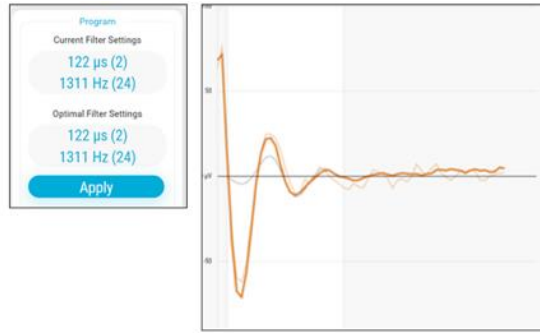
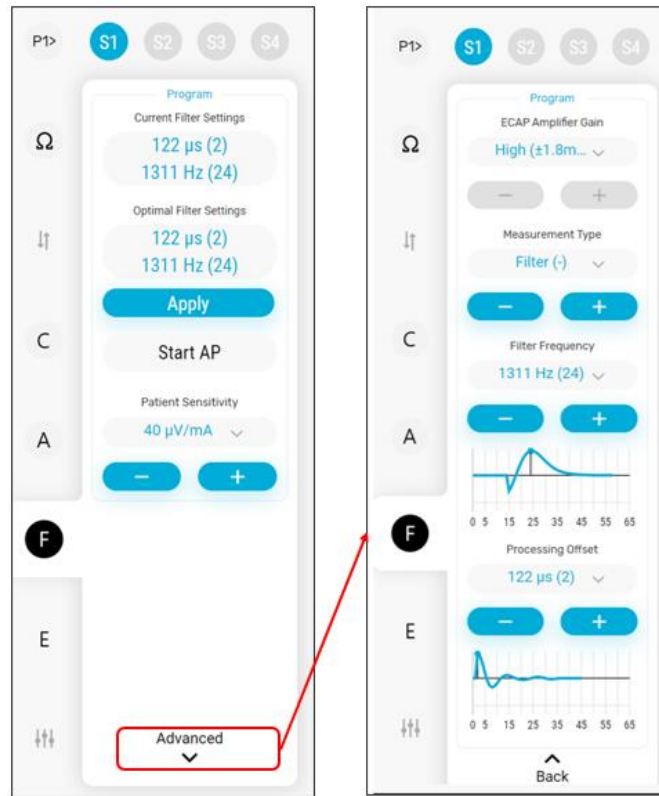

Figure 6.41: ECAP display with a well-matched filter (-).
Figure 6.42: Filter Tab → Advanced.
2. Ensure the applied (current) filter settings match the recommended optimal filter settings (Figure 6.41), and check that the peaks of the ECAP signal line up with the peaks of the correlation filter. If they don't, you may manually adjust Processing Offset and Filter Frequency until they do.
Note: The default filter has a negative first peak (Figure 6.41). In some cases, filter alignment may be improved by flipping the filter the first peak is positive. This is done by changing the measurement type to 'Filter (+)' from the Measurement Type dropdown in Filter Tab → Advanced (Figure 6.42).
4. There are four measurement type options in Filter Tab → Advanced (Figure 6.42):